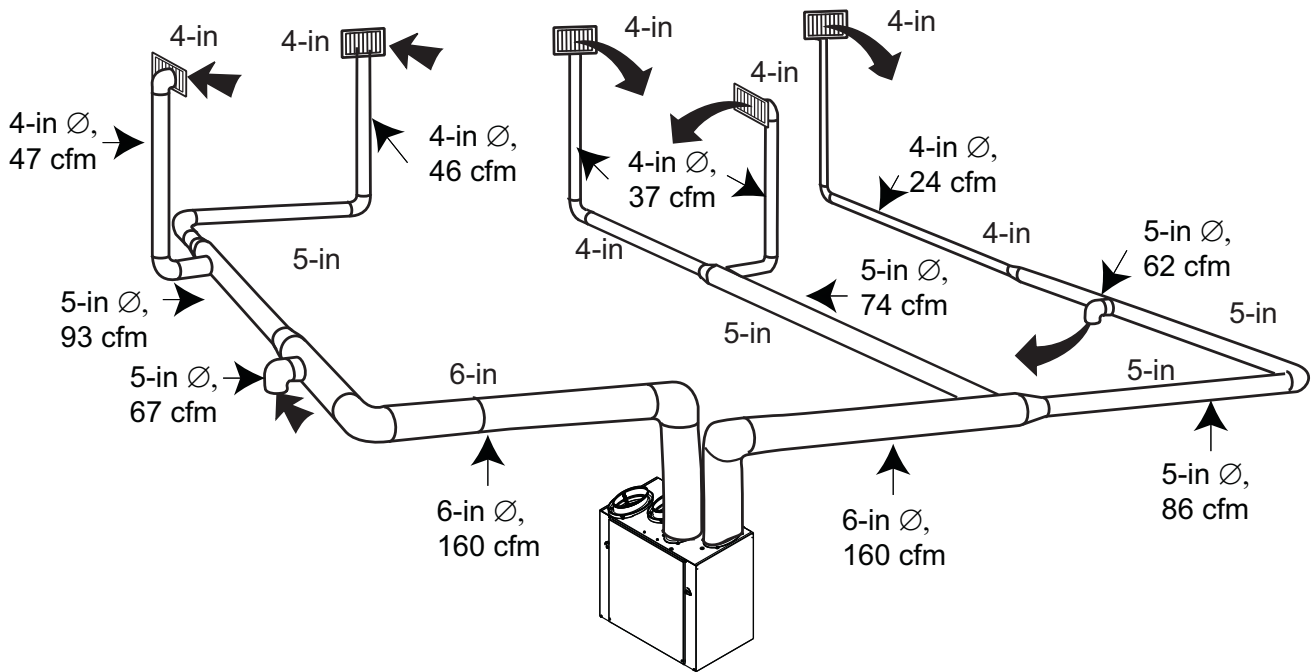

Fig. 10 - Fully ducted system
- B. Fig. 10 is an example of a design for a fully ducted system with a unit having a high speed performance of 140 cfm.